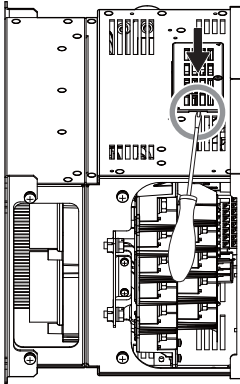

Figure 13 Remove the Connector Cover
3. Insert the blade of a straight-edge screwdriver into the opening shown in *Figure 13*. Pull the connector cover in the direction indicated by the arrow and remove it from the drive.